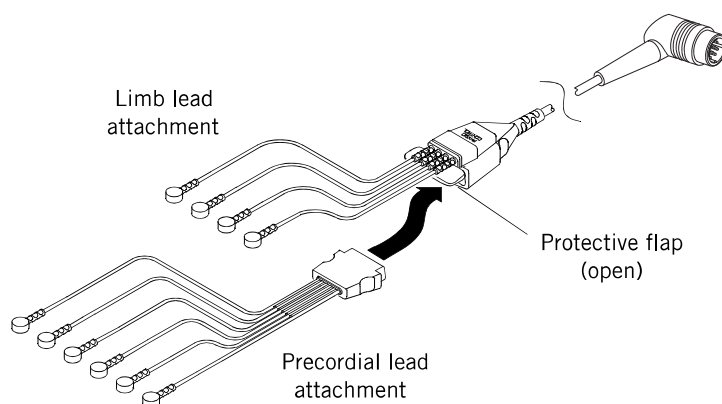

Figure 4-6 12-Lead ECG Cable
2. Insert the limb lead and the precordial lead attachments into the main cable as shown in Figure 4-6.